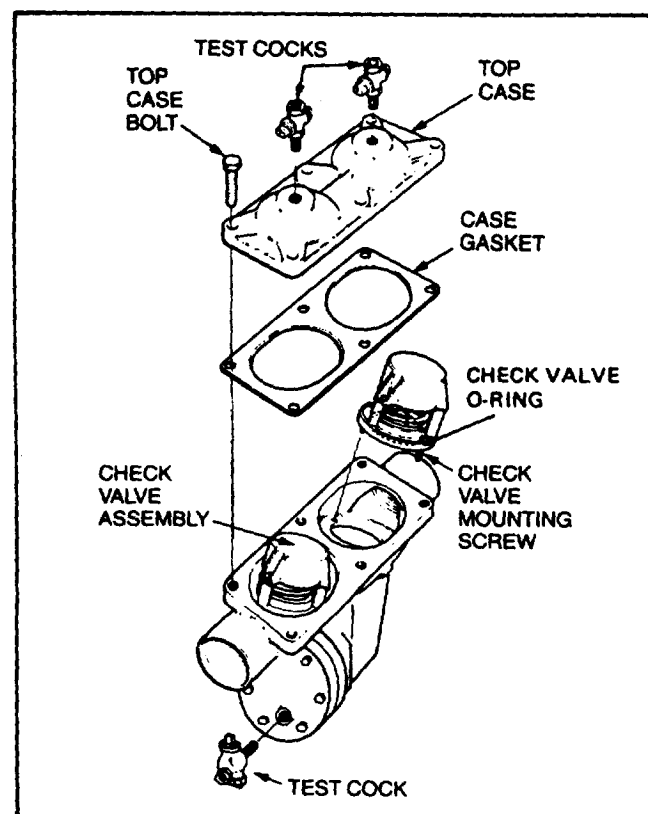

Figure 7. 3/4" AND 1" CHECK VALVE ASSEMBLIES
2. Loosen check valve mounting screws and lift off check valve assemblies, with screws attached. (See Fig. 7, 14A, 14B, 15).
3. Remove relief valve housing bolts and relief valve housing, or relief valve cover (See Fig. 7, 14A, 14B, 15).
- Make sure o-ring is in place as shown in Figure 7.
- Place mounting screws in holes in check valve assembly as shown in Fig. 7, and position valve in body. The 3/4" and 1" valves have 2" screws; the 1 1/4", 1 1/2" and 2" valves have 4 screws.